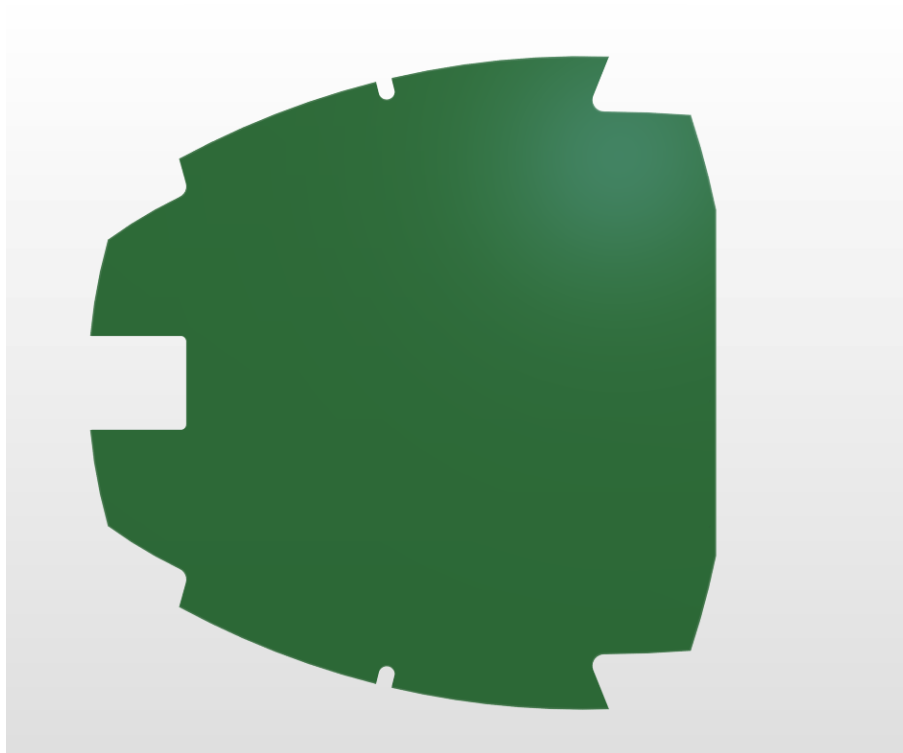

Figure 7. Resulting Board Shape in 3D Mode
30. The board shape is now defined as shown in Figure 7.